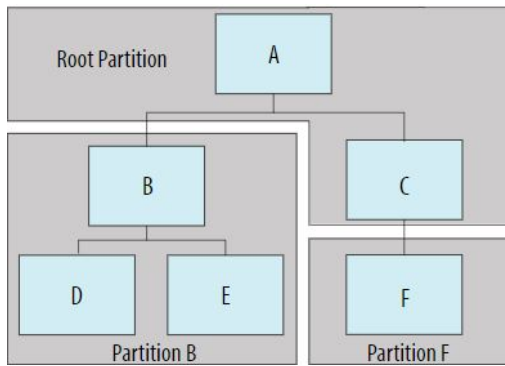

Fig. 3. Design Partition
1) *Platform Designer*: The Platform Designer saves time and reduces workload in the FPGA design process by automatically generating interconnect logic to connect intellectual property (IP) functions and subsystems. The platform designer uses a hierarchical framework to offer fast response times and provides support for blackbox entities. The platform designer uses various design tools to create register transfer level (RTL) languages, block-based design entry and schematic entry. [4]
4) *Creating a design partition*: A design partition is a logical, named, hierarchical boundary that can be assigned to an instance in the FPGA design. This design partitioning can optimize and lock down results for individual blocks. This provides the ability to reuse the results of individual blocks in another projects. Figure 3 shows an example of design partitioning. [5]